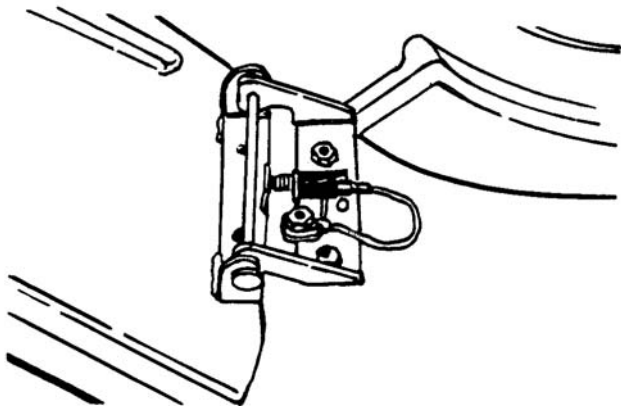

Figure 12-14. Location of Chute Safety Switch
- Unplug the yellow wire from the chute safety switch. Pull the deck from under the rider. See Figure 12-14.